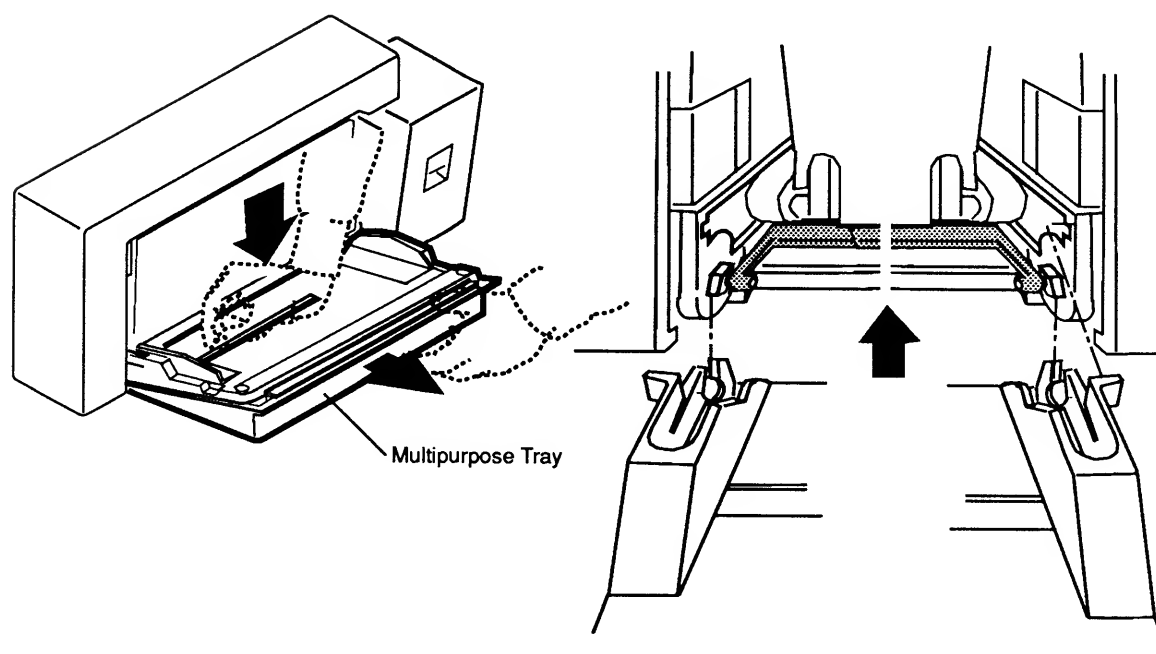

Figure 2-44 Multipurpose Tray Assembly
1. Pull out the multipurpose tray from the front access door (**Figure 2-44**).
2. Place the heel of your hand at the center of the multipurpose tray and press straight down until the tray releases (**Figure 2-44**).